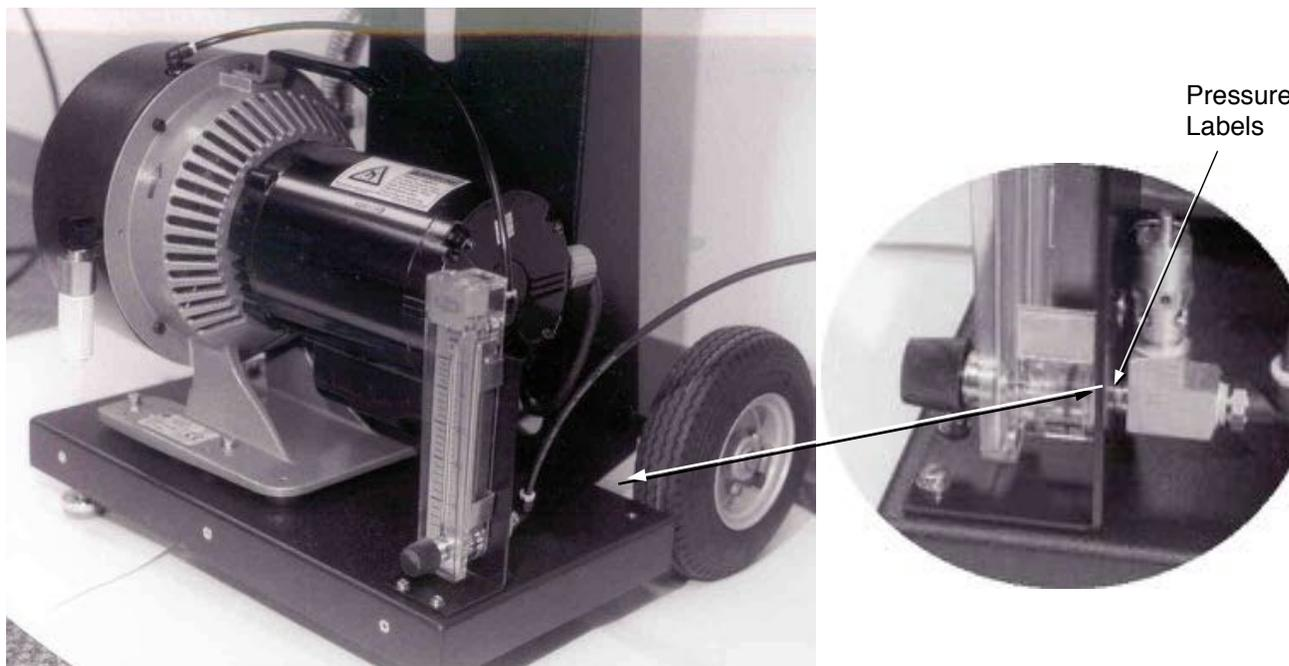

Figure 2-9 N₂ Purge System on the 959D
A continuous purge of the 959D TriScroll roughing pump and the associated vacuum system in the leak detector with laboratory grade nitrogen assures that residual helium levels do not raise the system background to unacceptable levels. The N₂ purge option consists of an inlet port with a pressure-relief valve and a flowmeter mounted on the bottom of the cart adjacent to the roughing pump, as is seen in Figure 2-9. The nitrogen is introduced to the system via a port on the roughing pump, from where it flows through the pump toward the leak detector and replaces and then blocks the entry of ambient helium.
1. Remove the plug on the nitrogen port and connect the N₂ as shown in Figure 2-9.